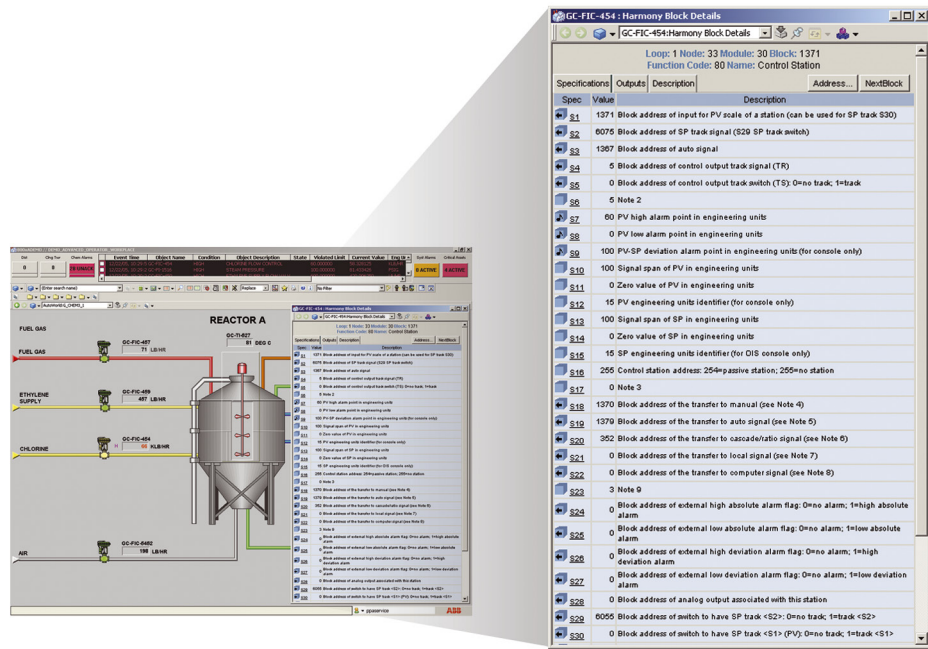

Figure 13. Block details view
■ **Block Details.** The Block Details aspect (Figure 13) inspects function blocks within a selected controller. Grouped within a series of tabs, the Block Details aspect displays the block's specifications with tuning options, its outputs, and additional related function code information. Tabs include: